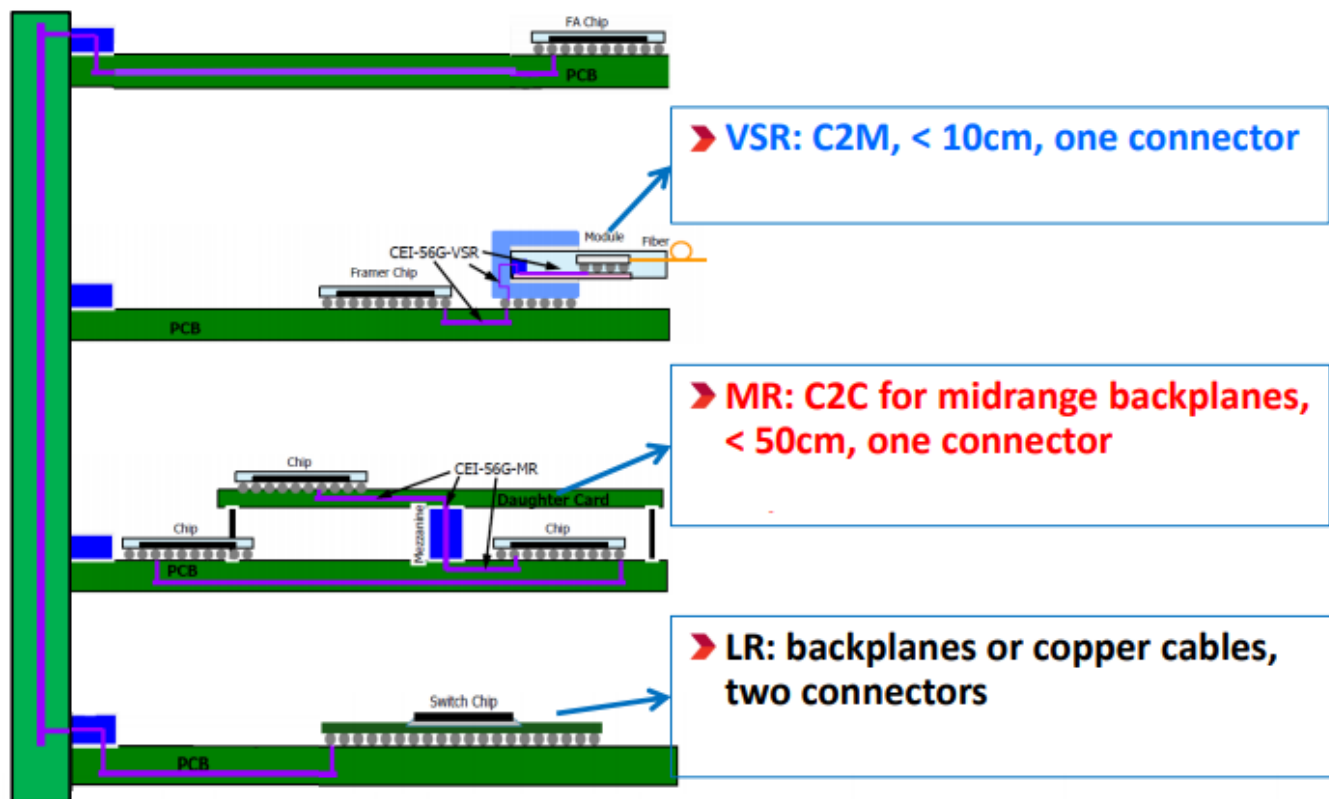

Figure 1. SerDes Interconnects of Varying Trace Lengths
Figure 1 shows a Long Range (LR) connection between two chips, Very Short Range (VSR) connection between a Chip and a Module, and a Medium Range (MR) connection between two chips.